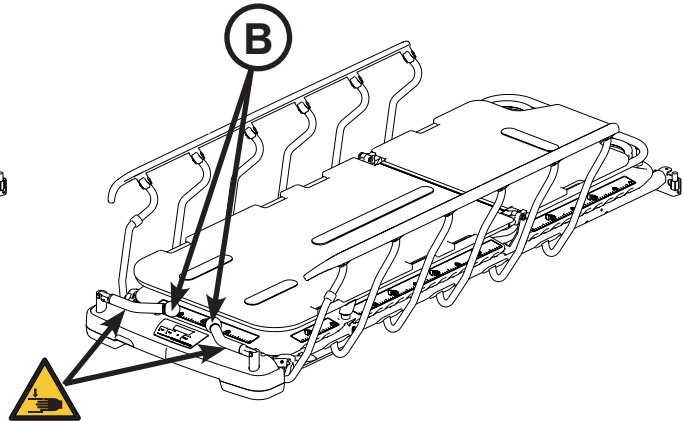

Figure 22: Foot End Push Handles Stored
To store the push handles, lift the handles (B) up and pivot them down to store in the handle rests (Figure 22).